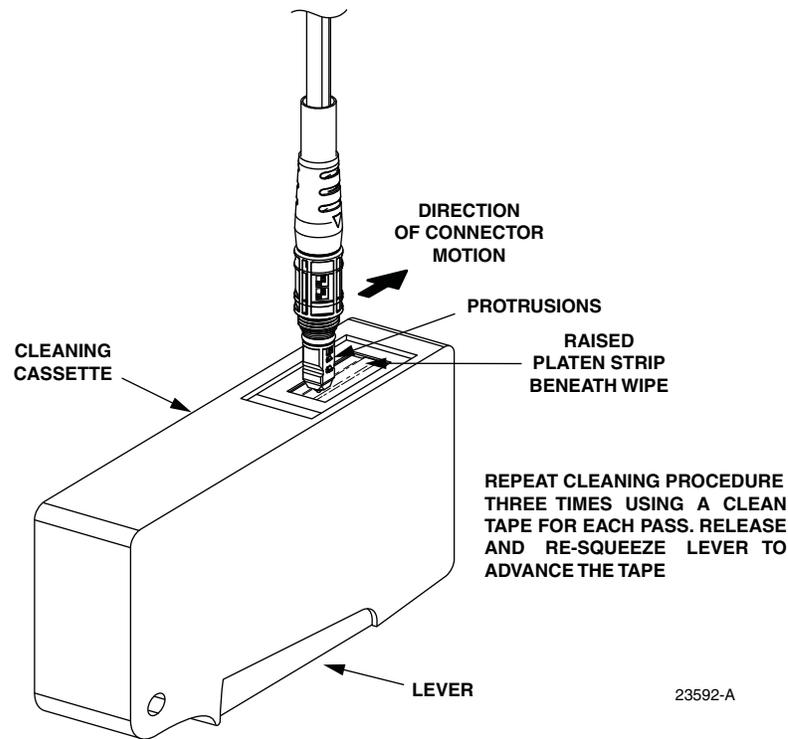

Figure 18. Cleaning Drop Cable Connector
6. Hold connector facing you with the protrusions perpendicular to the length of the cleaning cassette, tilt the connector to the right (no more than 8-degrees) this places the connector in the correct position for cleaning, see Figure 18.